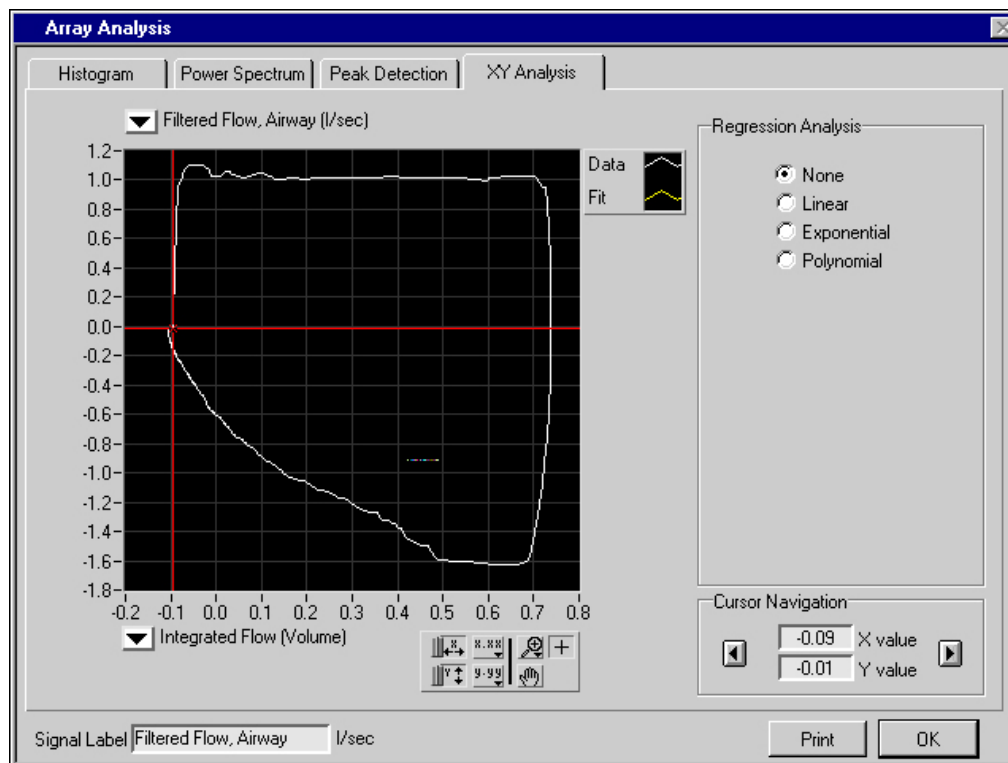

Figure B-25. Flow-Volume Loop
9. Click on the *XY Analysis* tab and select *Filtered Flow, Airway* for the Y axis and *Integrated Flow (Volume)* for the X axis. Figure B-25 displays the *Flow-Volume* loop for the highlighted